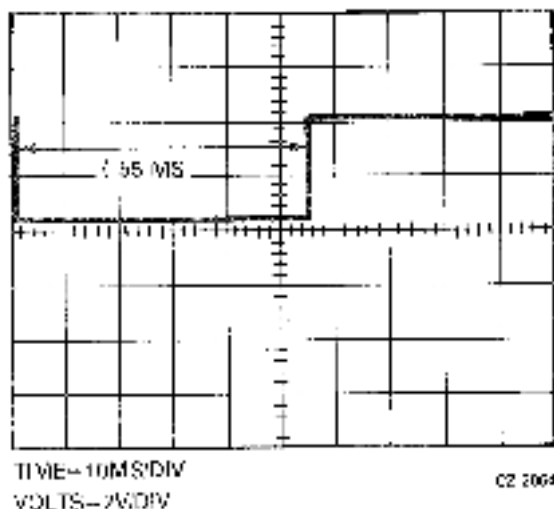

Figure 9-13 Access Time Check (85 or 170 Track Seek)
10. Issue a seek from track 0 to track 85 (RL01) or track 170 (RL02) and check to see that "Ready to Read/Write" is low for slightly less than 55 milliseconds. See Figure 9-13.